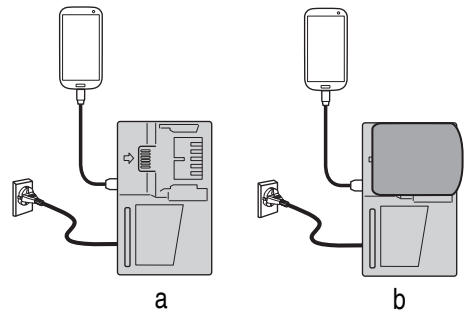

Fig. 25
- **Charging a USB device from a electrical outlet (Fig. 25-a).**
- **Charging a USB device and battery from a electrical outlet. (Fig. 25-b)**